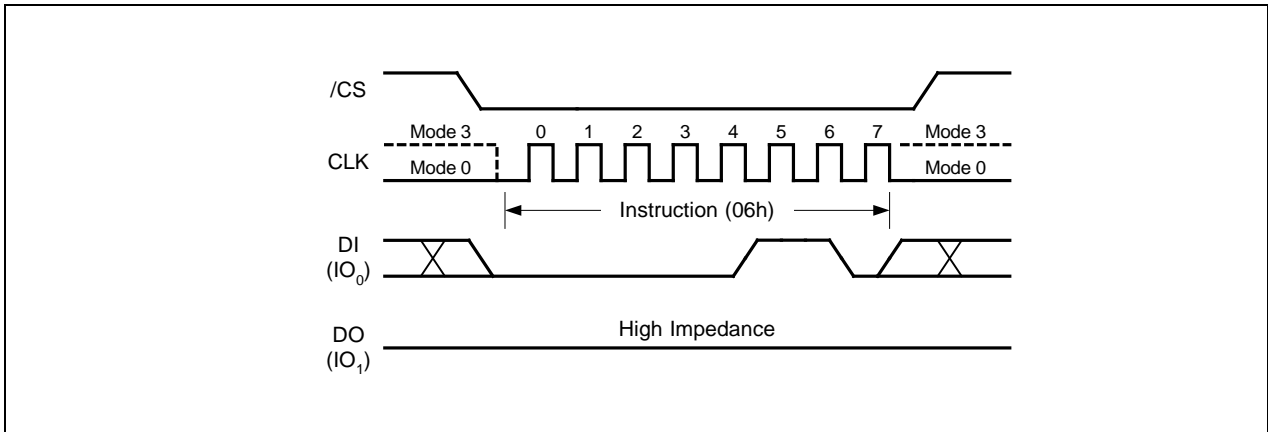

Figure 4. Write Enable Instruction for SPI Mode
The Write Enable instruction (Figure 4) sets the Write Enable Latch (WEL) bit in the Status Register to a 1. The WEL bit must be set prior to every Page Program, Quad Page Program, Sector Erase, Block Erase, Chip Erase, Write Status Register and Erase/Program Security Registers instruction. The Write Enable instruction is entered by driving /CS low, shifting the instruction code “06h” into the Data Input (DI) pin on the rising edge of CLK, and then driving /CS high.